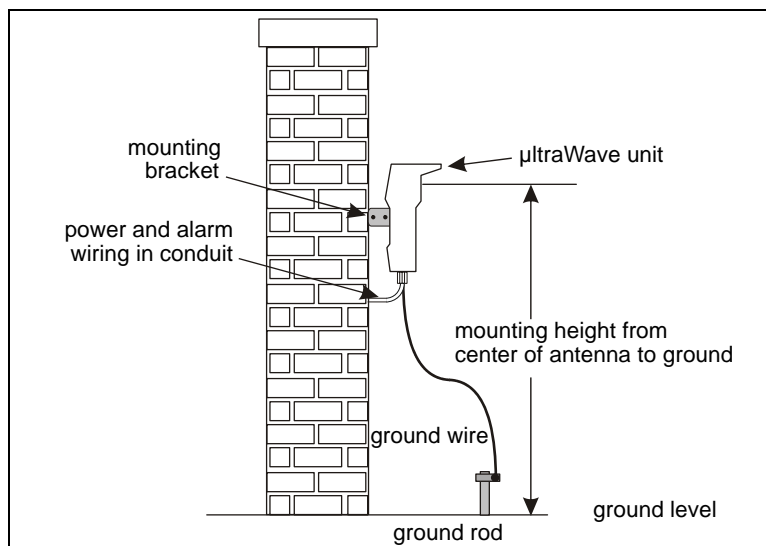

Figure 9 Surface mounting example
The post-mount bracket can also be used to mount an μ ltraWave unit on a fixed stable surface. The hardware required for fastening the bracket to the surface is not included. If you are considering a surface mount application, the transmitter receiver alignment must be carefully planned, as the mounting bracket cannot be easily adjusted in the horizontal plane for surface mount applications. Figure 9 illustrates a surface mount μ ltraWave application.
3. Hold the μ ltraWave unit against the mounting surface and measure the mounting height of the unit from the center of the antenna to the ground's surface (see Figure 9). Mark the mounting surface at the centers of the two holes in the post collar.